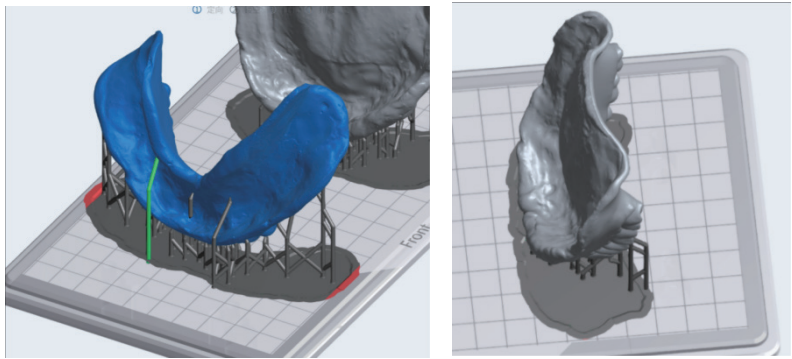

Figure 7
(5) After the support is added, the intra-alveolar and intra-tissue surface supports of the upper and lower jaws need to be deleted. Select the support to be deleted, as shown on the left side in Figure 7, and press the Delete key to delete it. The diagram after deleting the support is shown on the right side of Figure 7.